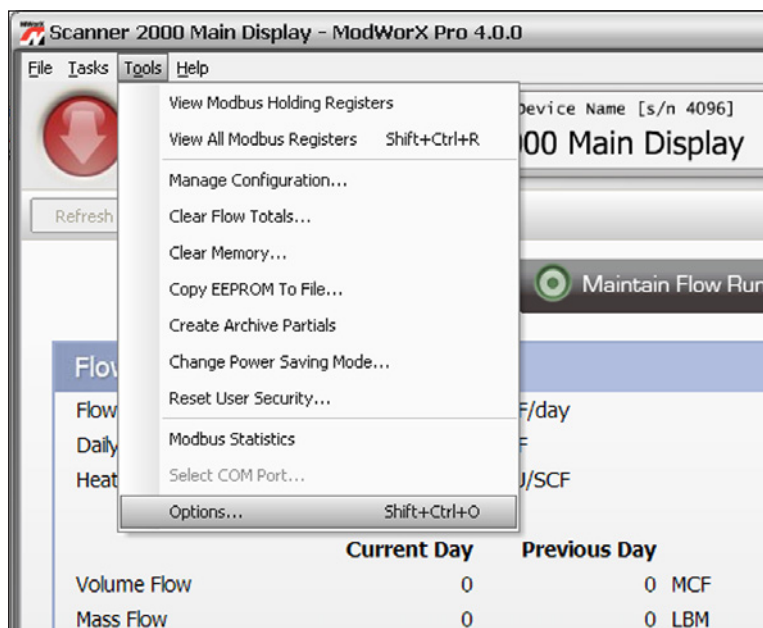
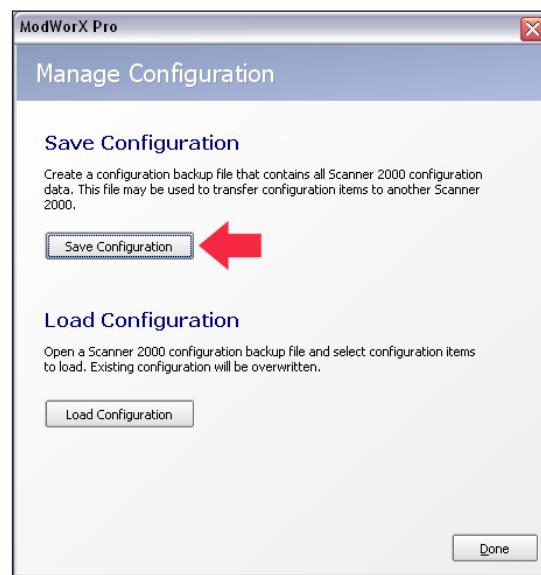
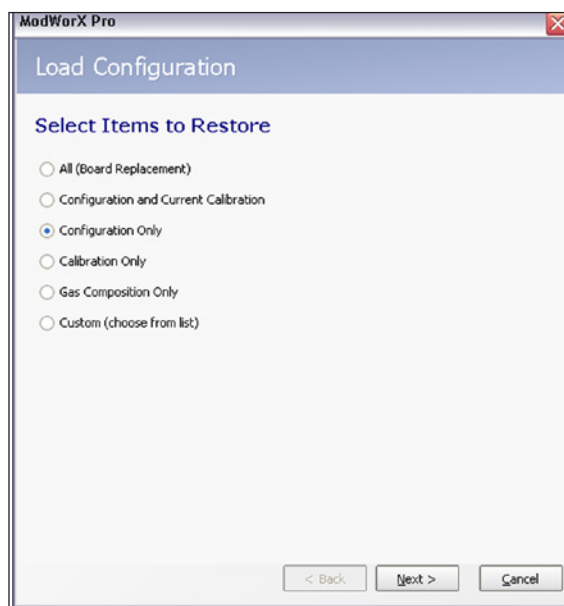

Figure A.1
Figure A.2
Figure A.3
In addition to the standard configuration settings provided in the Configure menu, ModWorX Pro allows users to customize software functions using settings found in the Tools menu. The Tools menu is located in the task bar at the top of the screen (Figure A.1).
1. Click on **Tools>Manage Configuration** (Figure A.1, page A-5). A dialog will appear (Figure A.2).
2. Click the **Save Configuration** button (Figure A.2). A screen will appear, displaying a default filename (for example, Device_Name_20070803_0002.srf) and file location. The default file location is C:\NuFlo Log Data\ModWorX Pro\<Field_Name>\<Site_Name>.
1. Click on **Tools>Manage Configuration** (Figure A.1, page A-5) and click **Load Configuration**. The Load Configuration dialog shown in Figure A.3 will appear.